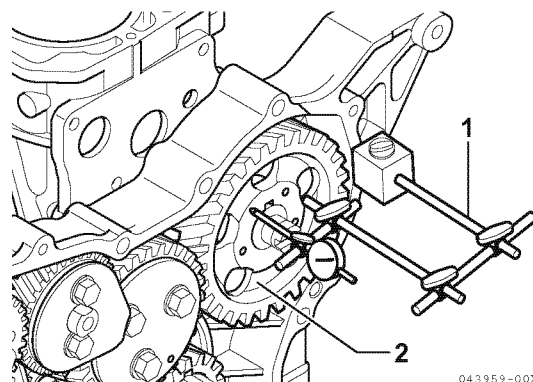

Figure 6-55
- **Method A:** Install a dial indicator (1, Figure 6-55) on the cylinder block. Move the camshaft (2, Figure 6-55) back and forth to measure the end play. Record the measurement. See *Camshaft* on page 6-7 for the service limit.